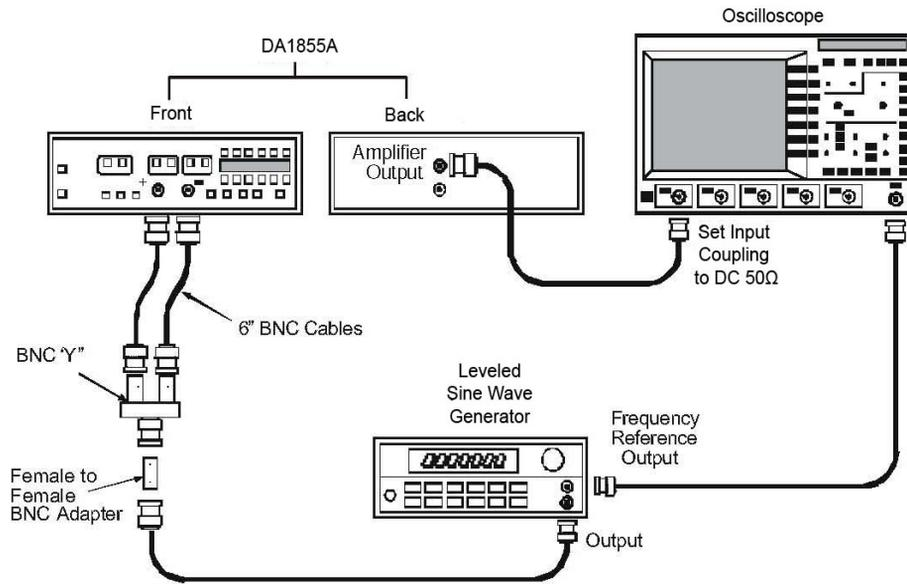

Figure 21, LF CMRR Check Setup
- h. Connect the two free ends of the 6" BNC cables to the +INPUT and -INPUT of the DA1855A. Refer to Figure 21.
- k. Set the oscilloscope to display channel 1, coupling to DC and impedance to $50\ \Omega$ and the vertical sensitivity as necessary to measure the amplitude of the displayed waveform. Refer to Figure 21
- u. Remove the sine wave generator output cable and reconnect it to the female to female BNC adapter and cables attached to the DA1855A inputs. Refer to Figure 21.